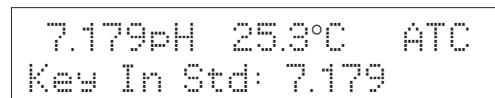

Figure 20
1. When entering the custom calibration mode, the lower display will show *Key In Std:*. The upper display shows the pH buffer the electrode is dipped into. The lower display will show the same value as the upper display only if the meter has not been calibrated or if the meter has been reset. See **Figure 20**. If the meter has previously been calibrated, the lower display will toggle to the stored calibration point that is closest to current buffer value.